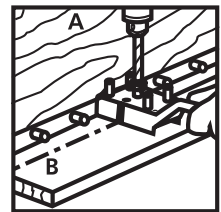

Figure 30
11. Using the Quick Dowel Jig as a guide, set the depth stop on the drill bit so you do not drill through board B. Drill a hole for each dowel pin. See Figure 30.